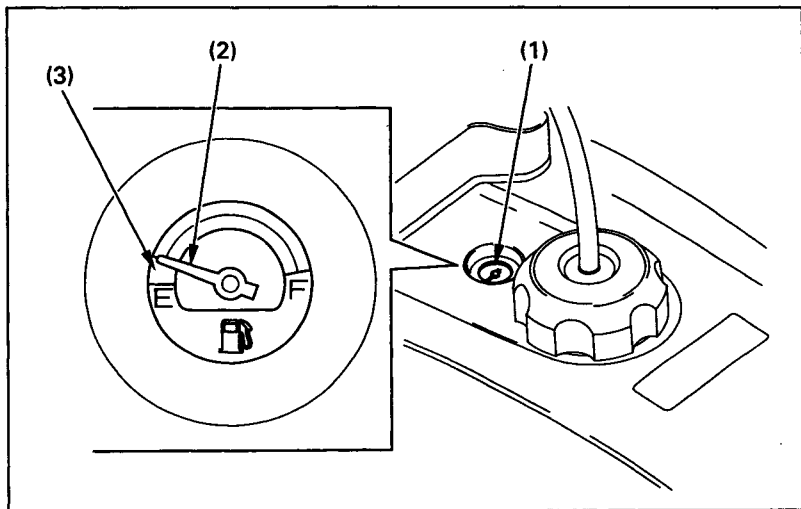

Fig. 2-18 (1) Fuel gauge
The fuel gauge (Fig. 2-18) (1) shows the approximate fuel supply available. At F (Full), the fuel tank capacity including reserve is: